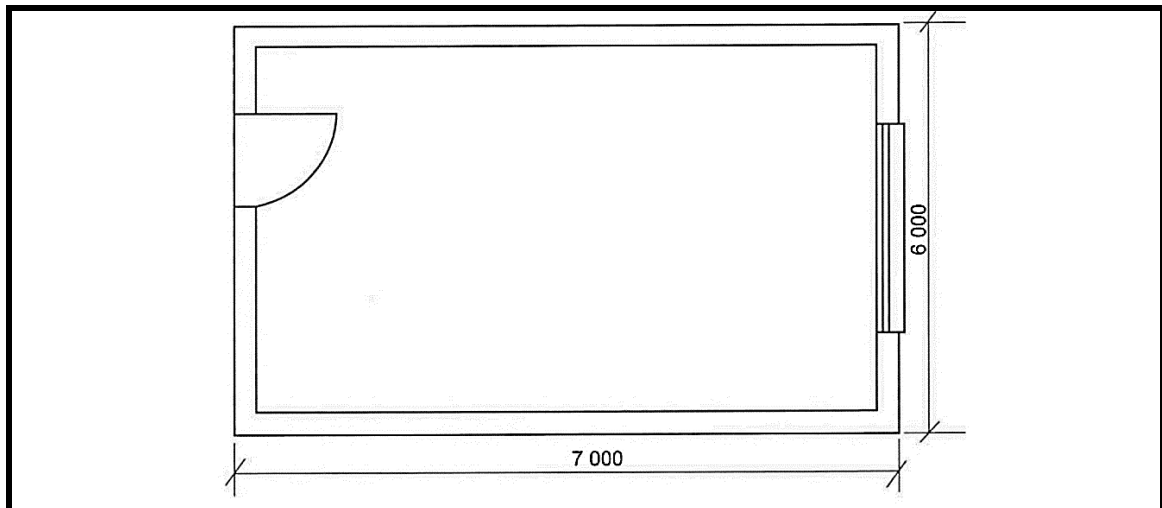

FIGURE 6.7
6.7 FIGURE 6.7 below shows the floor plan of a building with a window and a door.